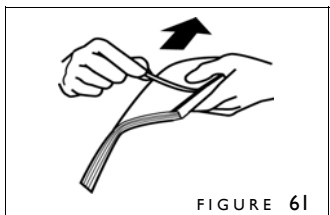

FIGURE 61
2. Peel off the thin release paper (figure 61) from the **front** of your bound book block,